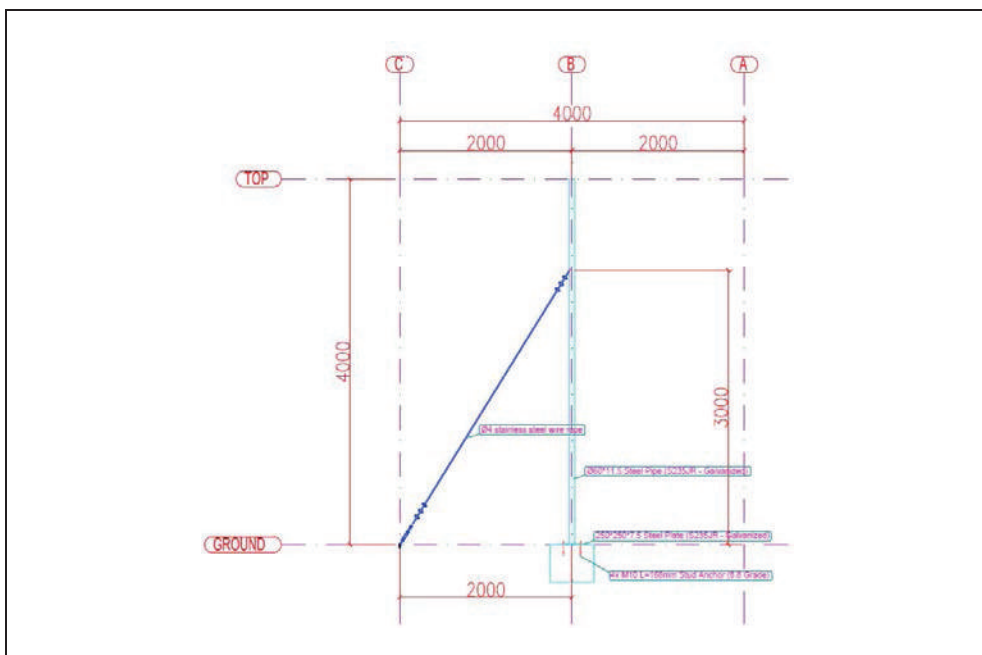

Fig. 5: Suitable guying system
- ▶ Secure the vertical tower with guy wires (refer to Fig. 5:)